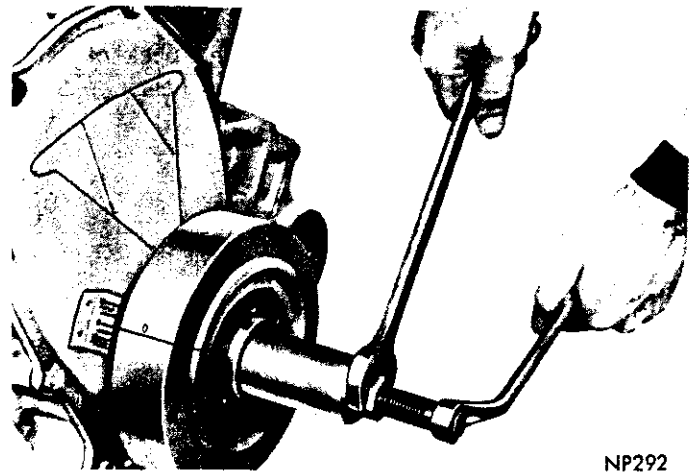

Fig. 24—Installing Vibration Damper Assembly
(3) Lubricate seal lip with lubriplate, place damper hub slot on key in crankshaft, and slide vibration damper on crankshaft.
(4) Place installing tool part of Tool C-3688 in position and press damper on the crankshaft (Fig. 24).
(5) Install damper retainer washer and bolt. Tighten to 135 foot-pounds.
(6) Slide belt pulley over shaft and attach with bolts and lockwashers. Tighten bolts to 200 inch-pounds.